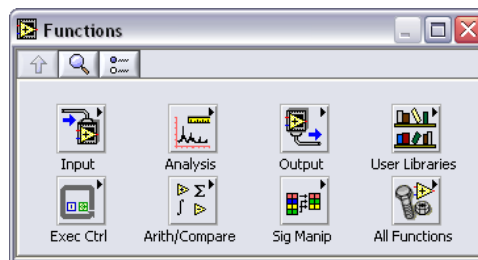

Figure 3. Functions Palette
6. If the **Functions** palette, shown in Figure 3, is not visible, select **Window»Show Functions Palette** to display it.